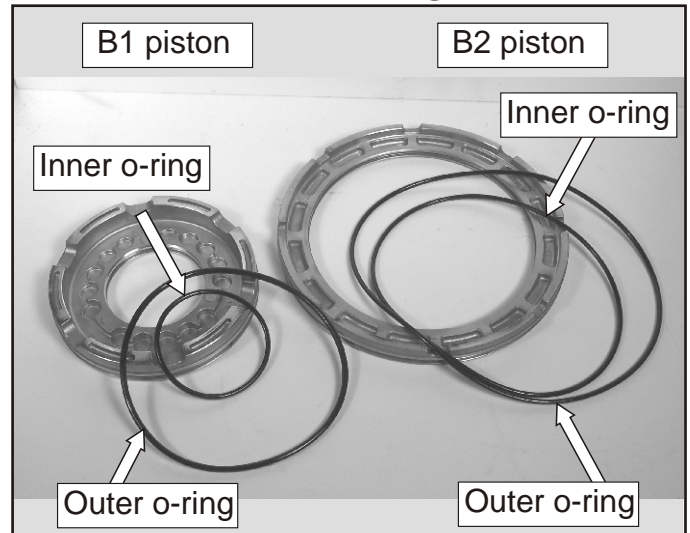

Figure 116
64. Replace the inner and outer B1 and B2 piston o-rings as shown in Figure 116.